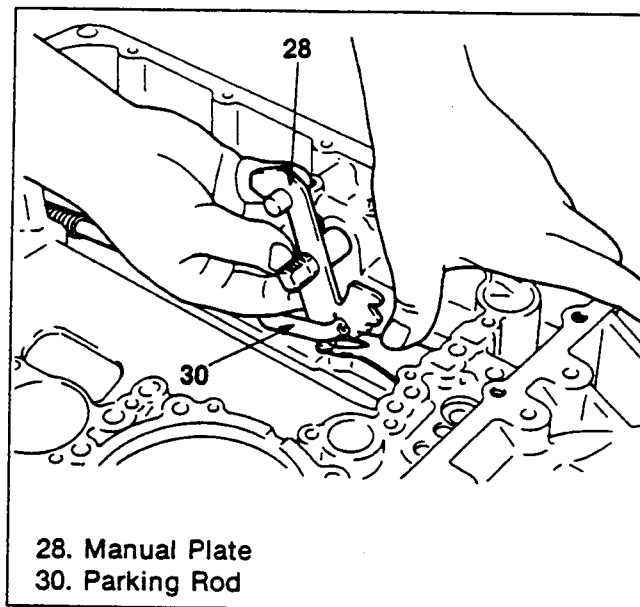

Figure 237. Manual Plate Installation (1)
Manual Plate (Figures 237 and 238)
1. Attach the manual plate and the parking rod together (figure 237).